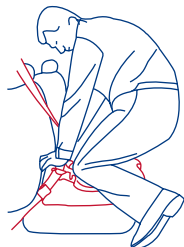

Fig. 40-3
5. Proper installation of the Safety Seat or Base requires that the seat belt be very tight. To tighten the seat belt, push down hard with your knee or hand on the Safety Seat or Base while pulling and tightening the seat belt. **Check that there is no slack in the seat belt on either side of the Safety Seat or Base, or anywhere along the path of the belt, and that the seat belt is tight from end to end.** (Fig. 40-3 and 40-4)